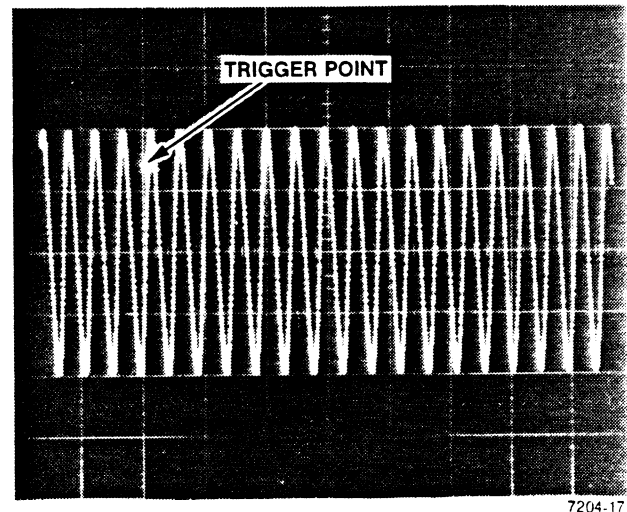

Fig. 3-47. Simple waveform acquisition display.
7. Channel 2 also may be displayed on the CRT monitor even though no waveform data is being input. This display can be removed by pressing the DISPLAY LOCATION key twice turning on the CH2 DISPLAY indicator, then turning the Parameter Entry Knob to set a display location of zero (0).
9. If the waveform is going to be examined or analyzed in more detail, set the HOLD status by pressing the RESET/HOLD key to stop the acquisition. This causes the waveform to be stored in RECORD LOCATION 1 (Fig. 3-47).